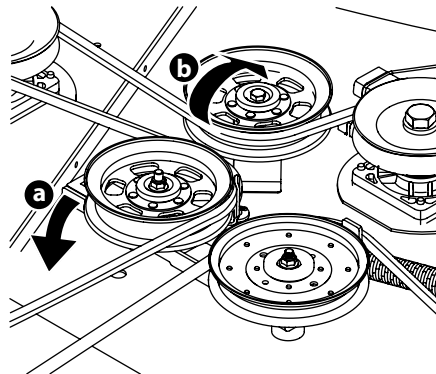

Figure 4-12
- Working from the middle of the tractor, pivot the idler bracket and movable idler pulley rearward away from the backside of the 'V' belt (a) just far enough to lift the belt up and over the idler pulley (b). See Figure 4-12.